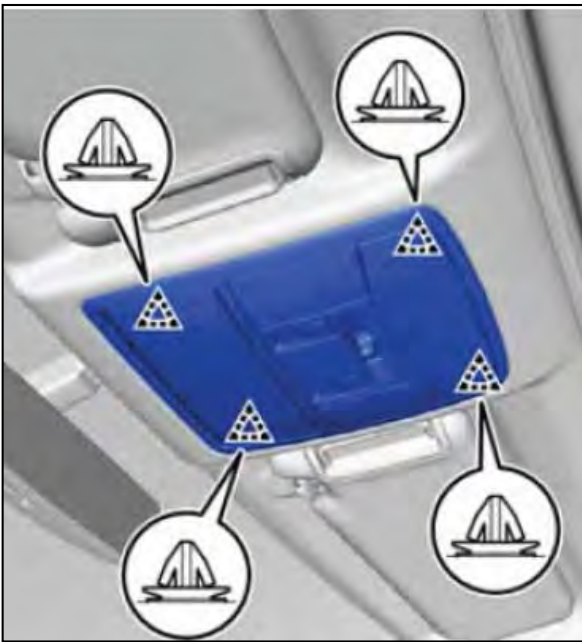

Figure 21
21. Connect the connector. Attach the 4 clips to install the map light assembly. See figure 21.